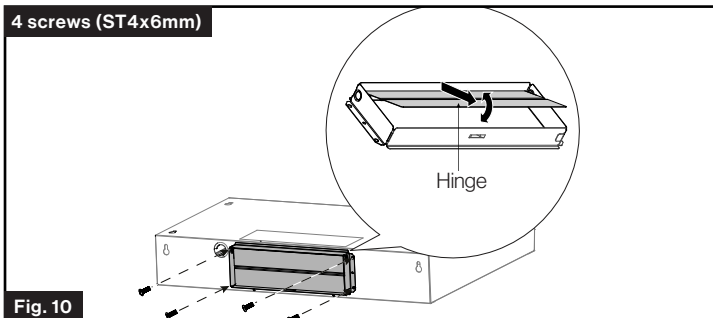

Fig. 10
3. Keep the hinge down to attach the rectangle damper properly. Fix rectangle damper to the rear by 4 screws (ST4x6mm). (Fig. 10)